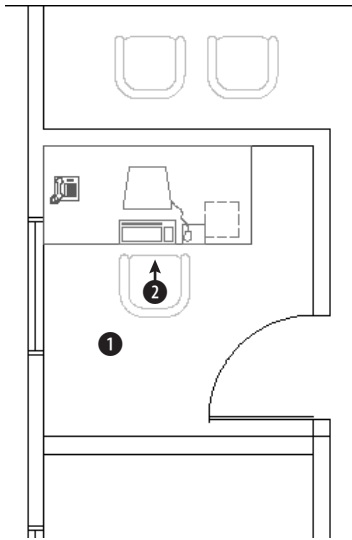

Figure 18-20: An office with a set of office furniture
1. Open `ab18-g.dwg` from the CD-ROM. This is a plan of an office building zoomed in to one office. A file containing one set of office furniture has been inserted, as shown in Figure 18-20.
6. Click **Pick Point** to temporarily return to the drawing. Pick point **1** in Figure 18-20. Leave the Text Options as they are. Click **OK** to end the command.